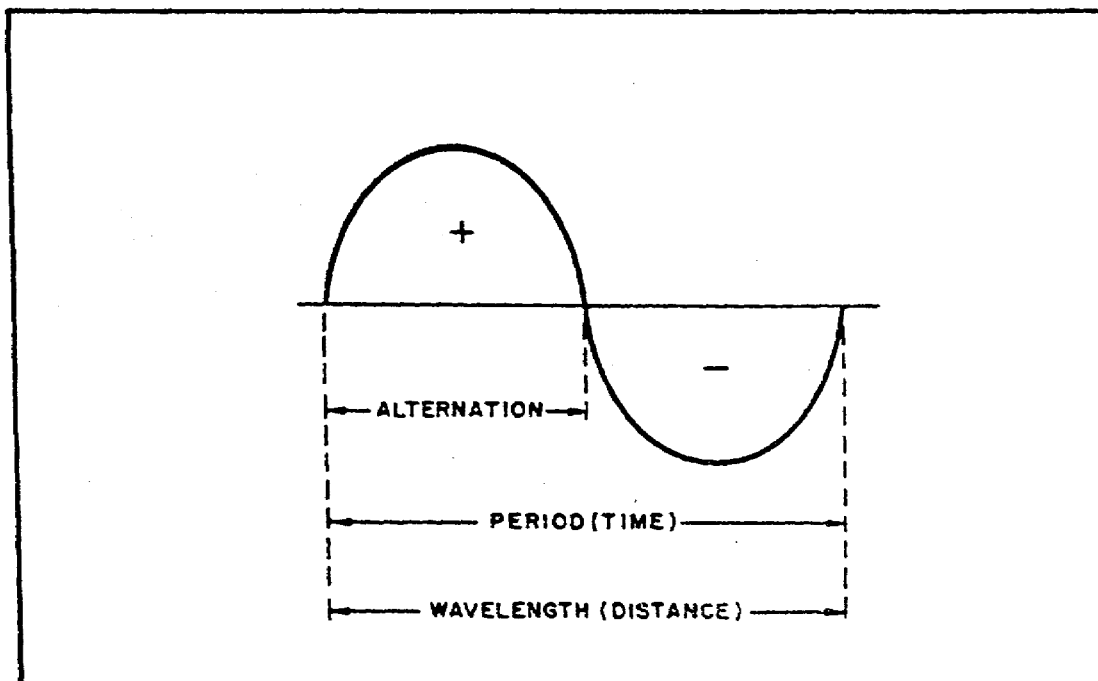
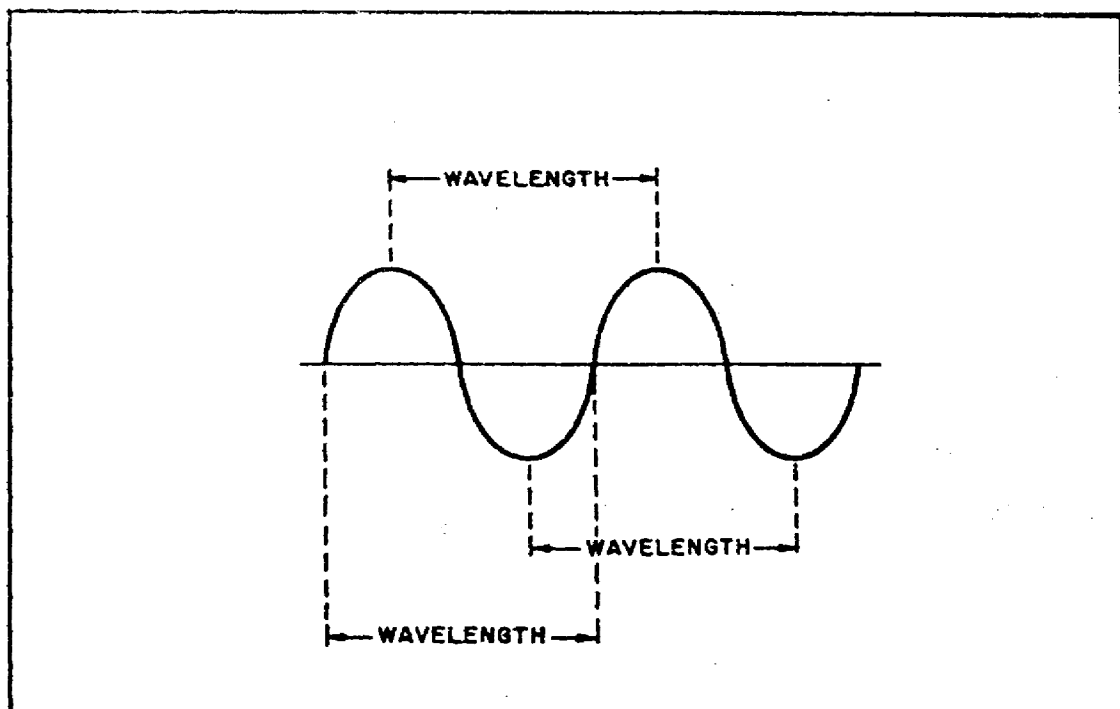

FIGURE 62. WAVELENGTH.
FIGURE 63. WAVELENGTH MEASUREMENT.
h. *Wavelength.* The time it takes for a sine wave to complete one cycle is defined as the period of the waveform. The distance traveled by the sine wave during this period is referred to as WAVELENGTH. The wavelength is the distance along the waveform from one point to the same point on the next cycle. You can observe this relationship by examining figure 62. The point on the waveform where measurement of the wavelength begins is not important as long as the distance is measured to the same point on the next cycle (figure 63 on the following page).